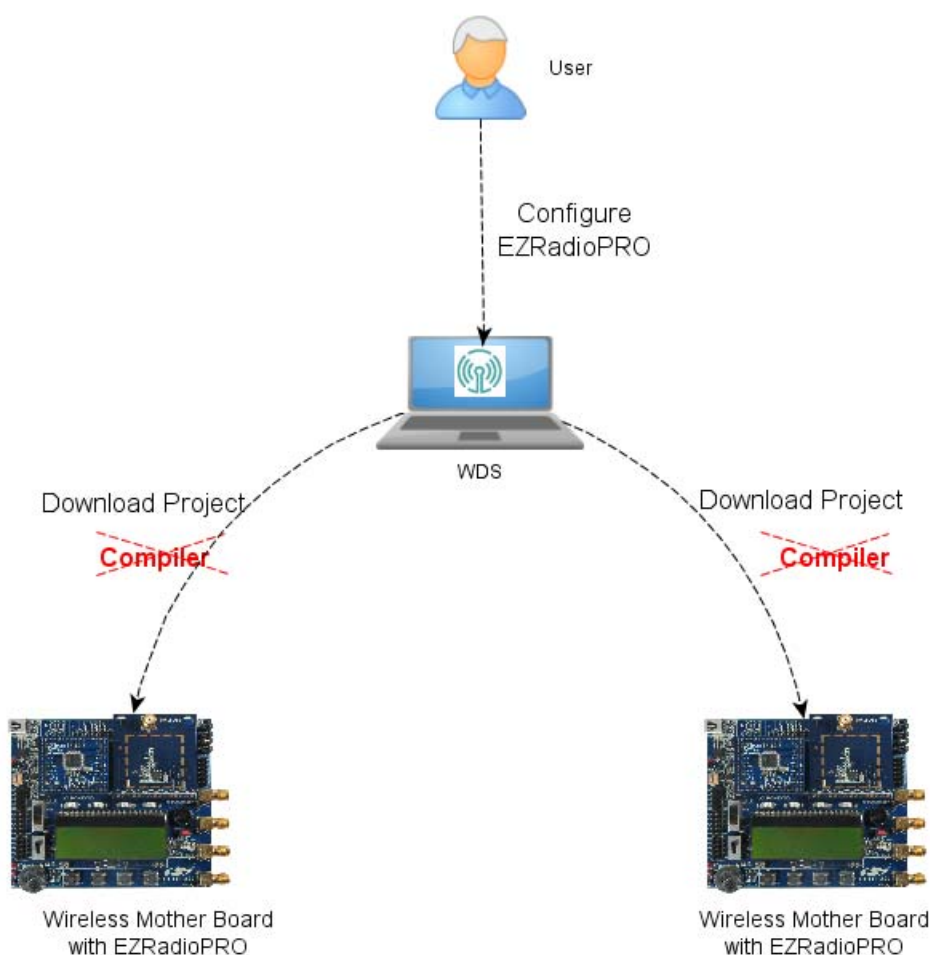

Figure 14. Source Code Download
- Added Figure 14, “Source Code Download,” on page 23.